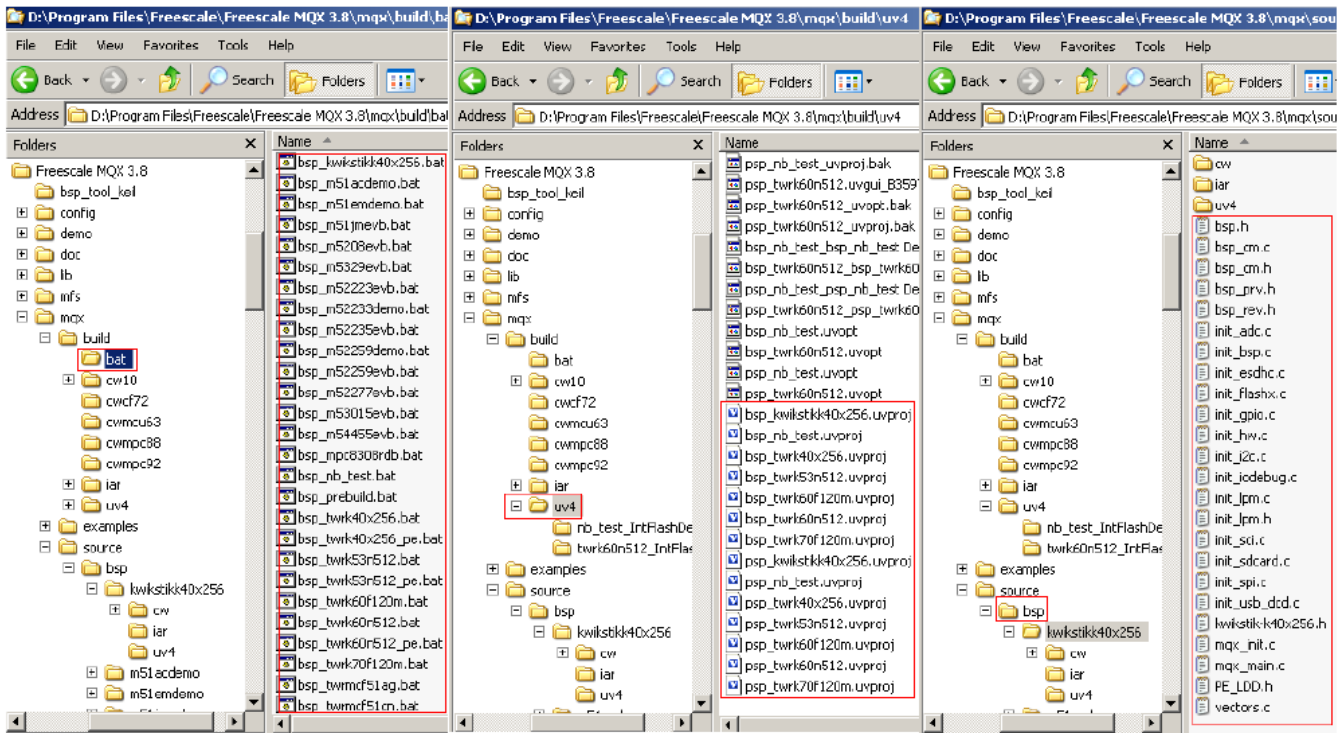

Figure 4. mqx folder and its subfolders
- **mqx**: In this folder, there are three important subfolders. See Figure 4.